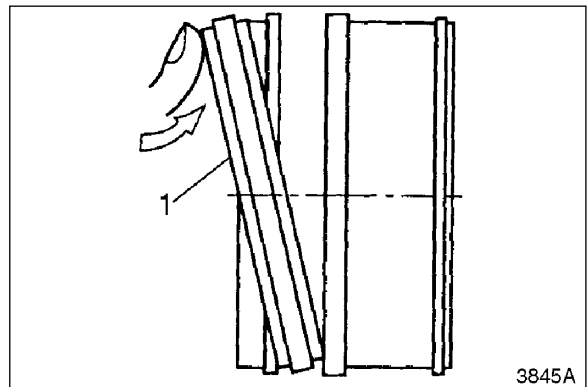

Figure 26
12. Insert one end of backup ring into its groove. See Figure 26. Use your hand to slide other end of ring into groove.